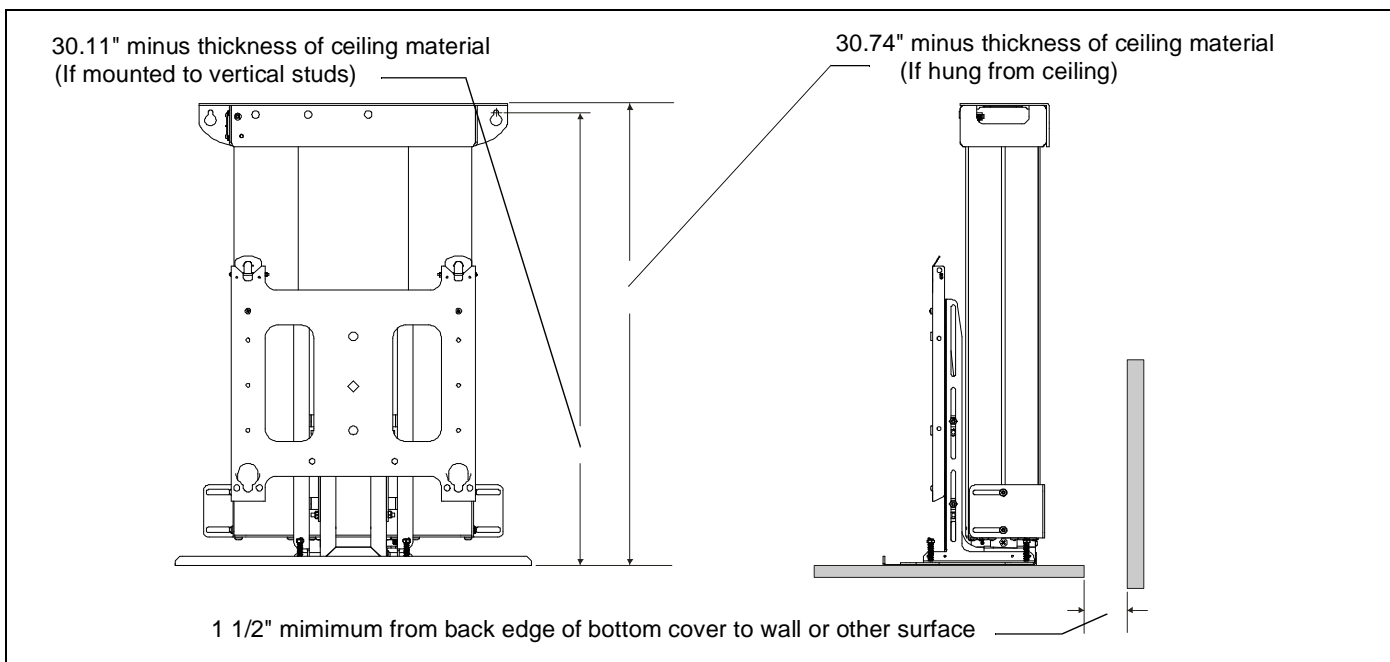
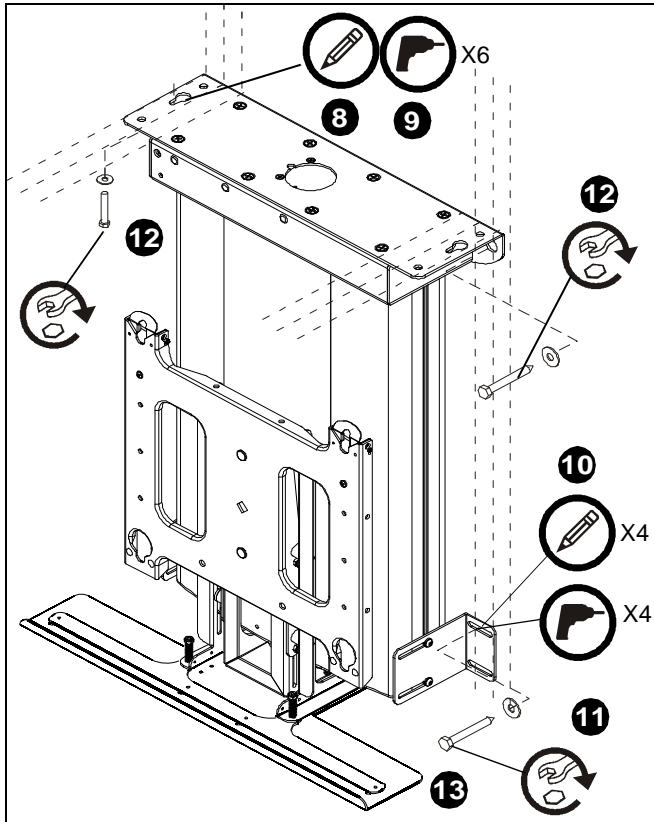

Figure 15
Figure 16
(See figure 15)
5. Loosen four screws securing side mounting brackets to mount and adjust side mounting brackets until properly positioned against studs if applicable. (See figure 16)
7. While maintaining dimensions referenced in figure 15, mark base plate mounting hole locations. (See figure 16)
9. Mark four side bracket mounting hole locations if applicable. (See figure 16)
11. Secure base plate to structure using either two (wall mount) or six (ceiling mount) 5/16" flat washers and two or six six 5/16" x 2 1/2" lag screws. (See figure 16)
12. Secure side brackets, if applicable, to studs using four 5/16" flat washers and four 5/16" x 2 1/2" lag screws. (See figure 16)